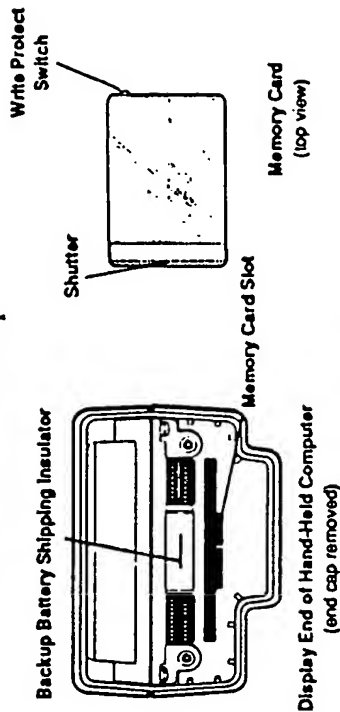

Figure 8
3. Gently fit the memory card into the wide slot. Make sure the shutter (figure 8) goes into the slot first, and that the shutter and the display on the hand-held computer are facing the same direction, such as UP or to your left.